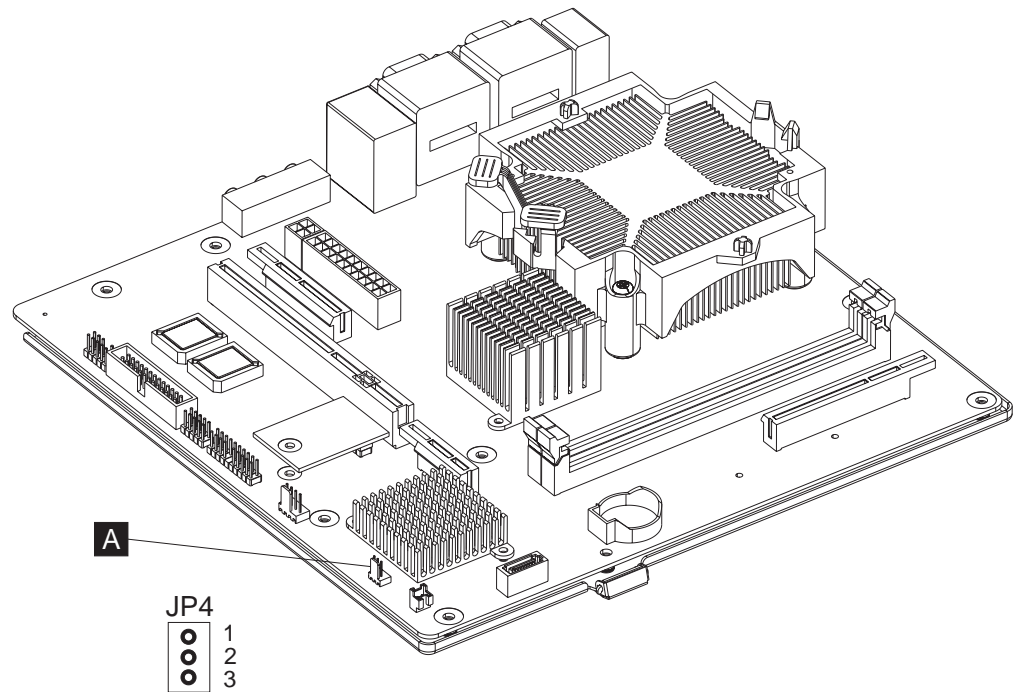
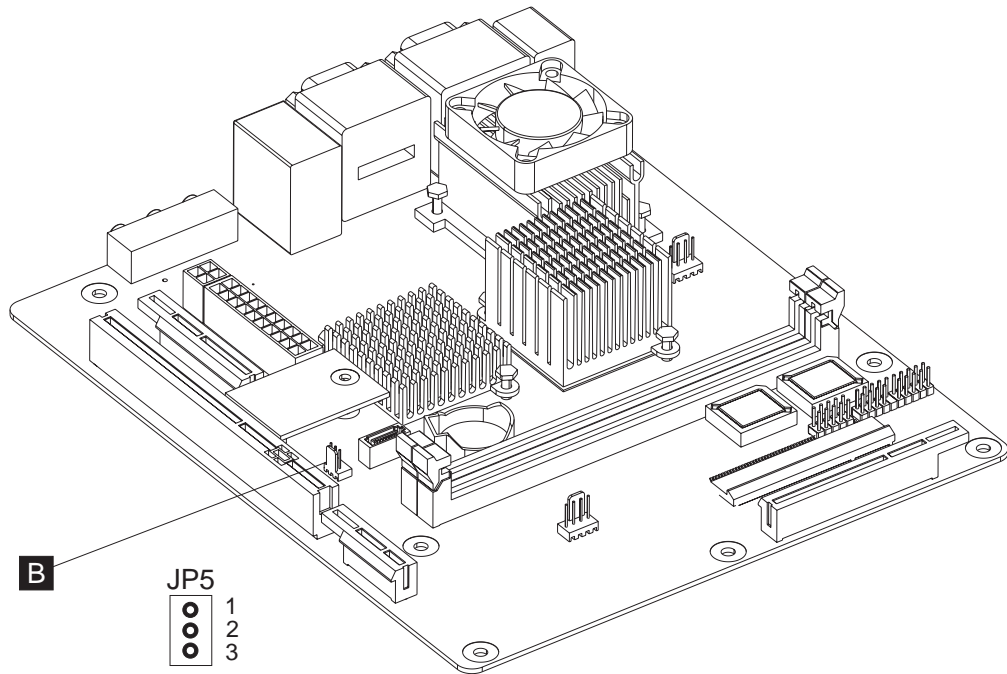

Figure 83. Location of CMOS jumper - Models 743, C43, E43, 783, and E83
Figure 84. Location of CMOS jumper - Models 723 and E23
4. See **A** in Figure 83 or **B** in Figure 84 on page 84 to locate your CMOS jumper on the system board. See Table 9 on page 84 for the correct pins and position to clear your CMOS settings.